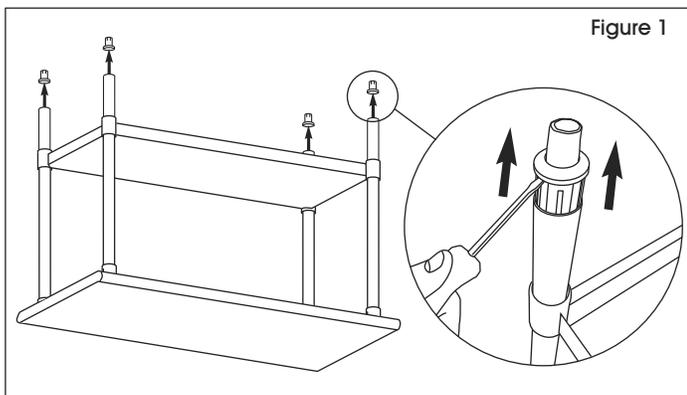

Figure 1
1. Flip the table over onto a smooth, non-marring surface. Remove adjustable feet from tube legs using a flat head screwdriver. (See Figure 1)